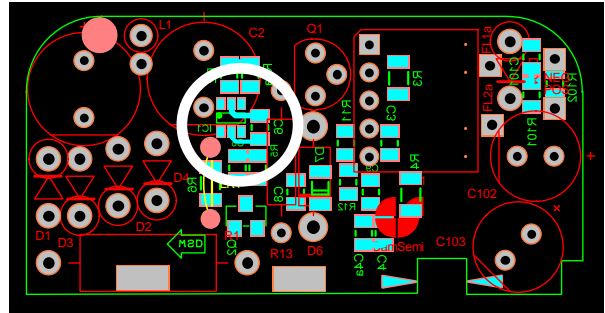

Figure 9: VDD pin Decoupling
The tracks between the VDD and GND pins, and the decoupling capacitor must be as short as possible to avoid poor performance. See Figure 9.
- VDD Decoupling - Figure 9